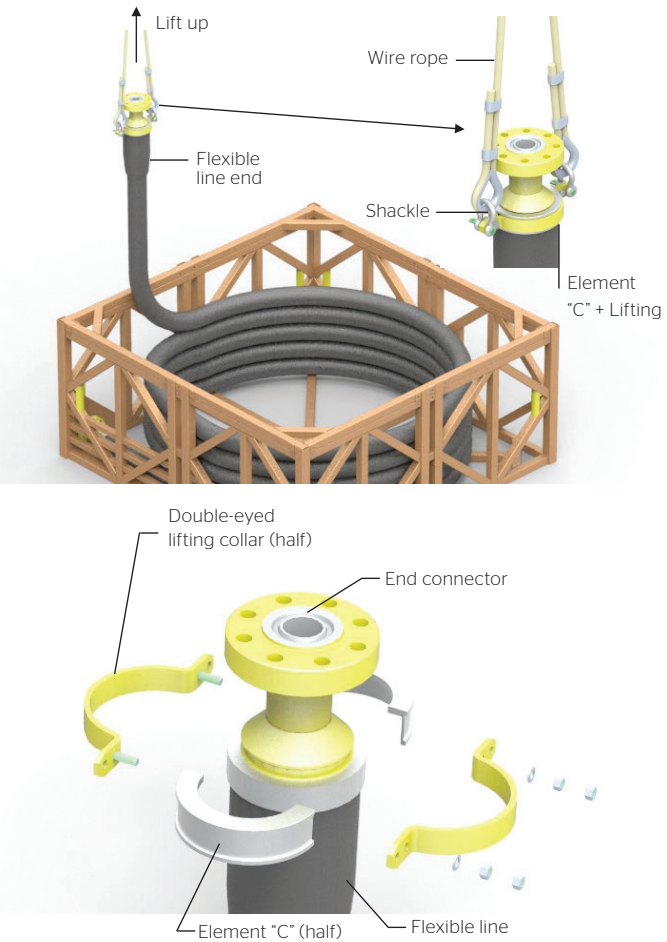

Fig. 17 Lifting the line from the crate using the lifting collar
- The lifting collar should be attached using the element "C" at the coupling end. Lifting slings should be attached to the swivel-crane hook to prevent the line from twisting during lifting. See Fig. 17.